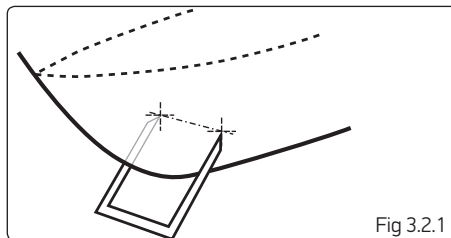

Fig 3.2.1
- Fig 3.2.1 - Make a jig to precisely align the drill holes either side of the hull.